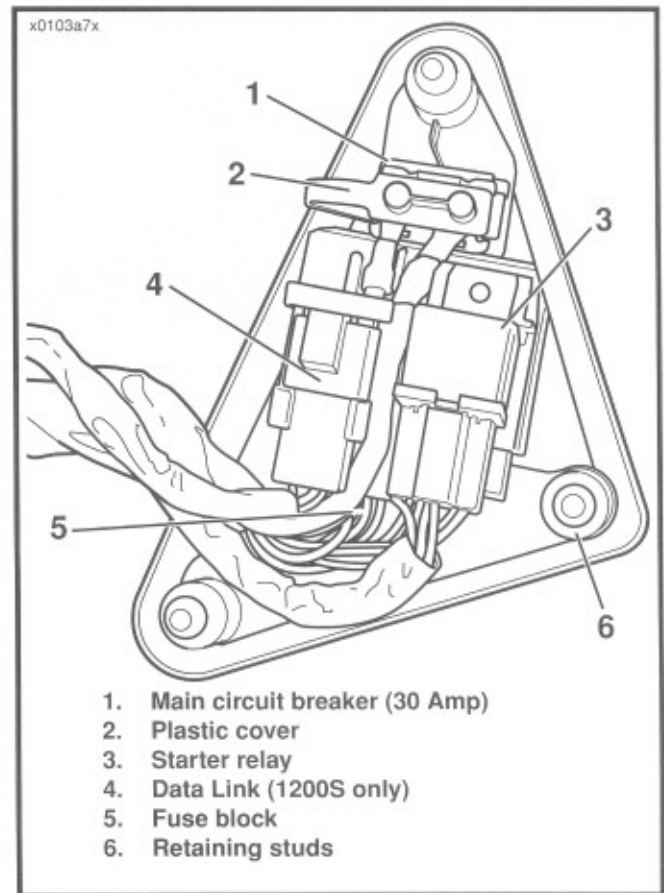

Figure 7-3. Electrical Bracket Components
- See Figure 7-3. Remove plastic cover (2) from terminal studs of main circuit breaker (1). Remove hex nuts from terminals. Remove ring connections.
- See Figure 7-3. Unplug starter relay (3).
- See Figure 7-3. Remove main breaker (1).
- Remove fuse block (5).
- Remove starter relay (3).